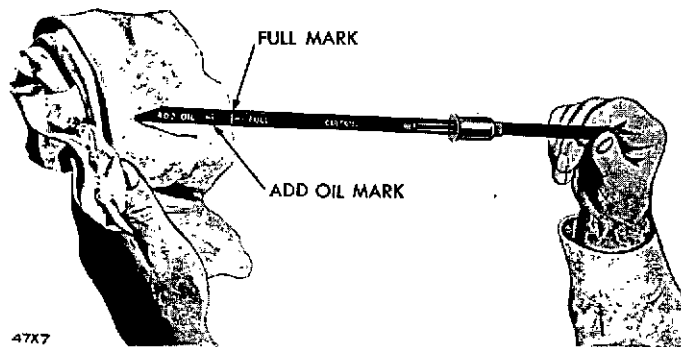

Figure 33 — Oil Level Indicator
**ADDING OIL.** Between oil changes, check the oil level daily. The oil level indicator (Figure 33) is of the bayonet type, with two markings, "FULL" and "ADD OIL." After the engine has been standing, the oil level should be at the "FULL" mark. After the engine has started, this level will drop somewhat, due to the filling of oil passages and the oil filter. A quart of oil should be added when the level is at or slightly below the "ADD OIL" mark. Do not run the engine with the oil level below the "ADD OIL" mark.